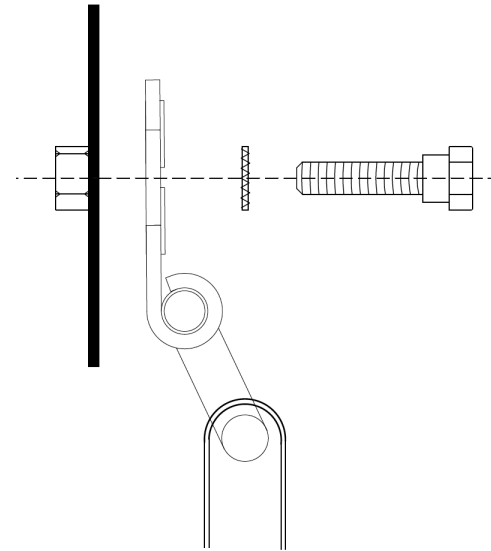

Fig. 10 (Above)
1. Assemble hardware as shown in **Fig. 10** (below)